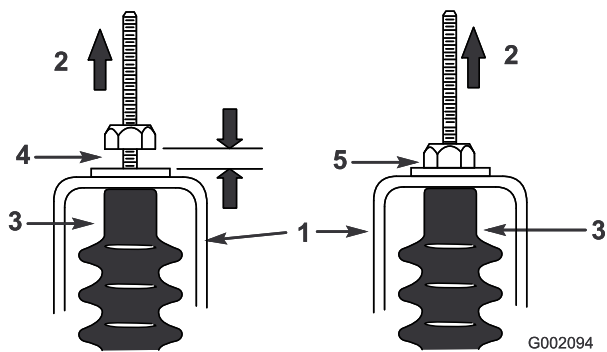

Figure 41
5. Pull up on each shift cable and ensure that there is no gap between the nut/washer and the neutral bracket (Figure 41). If there is a gap, tighten the nut.